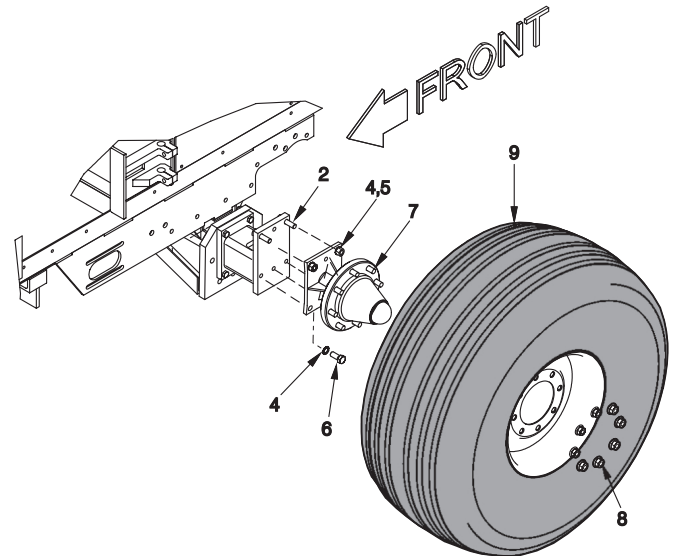

Figure 2-3-4 - Mounting Hub, Spindle and Tire
B. (See Figure 2-3-4) Place (2) Item 2 Bolts through the extension assembly and spindle. Place (3) Item 6 Bolts and (3) Item 4 star washers on the Hub and Spindle and thread the bolts into the axle extension. Secure with nuts and star washers. Torque all nuts and bolts as per torque chart on page 2-3-1.